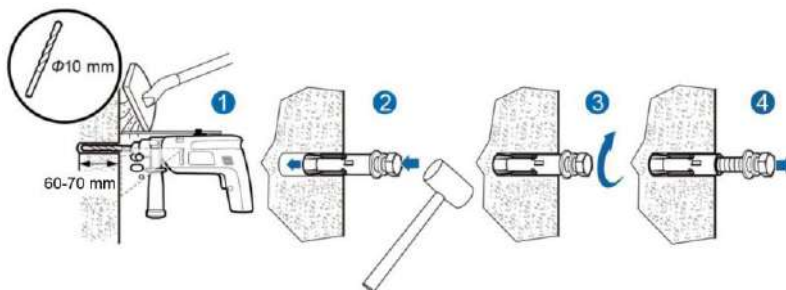

Figure 4.10 Install expansion bolts
- (3) Fix the expansion bolts to the 6 installation holes with hammer, as shown in Figure 4.10.